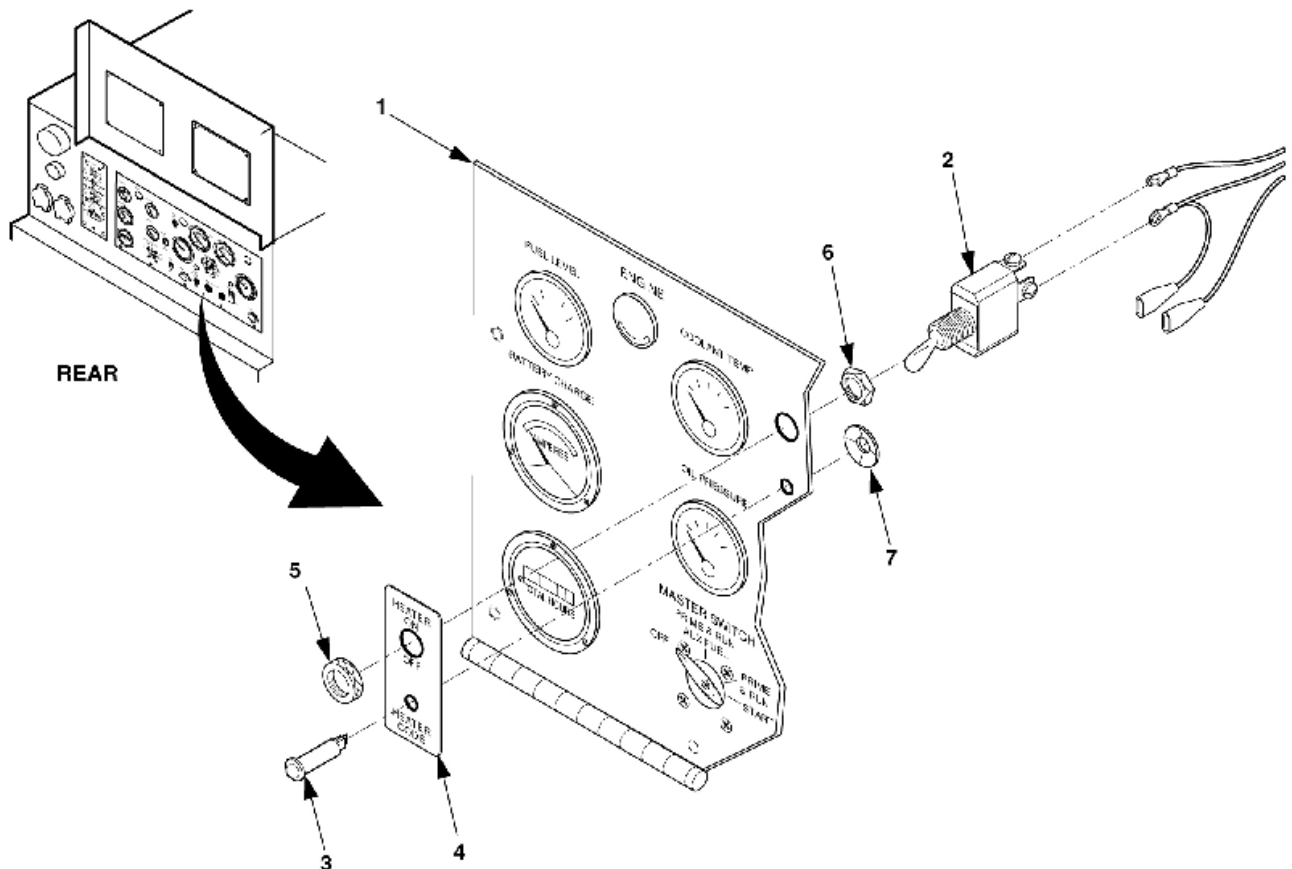

Figure 4-24. Plate, Operation and Heater Switch Maintenance.
1. Disconnect electrical lead from electrical switch terminal (2), Figure 4-24, and use multimeter to measure for continuity across switch terminals with switch in ON position. With switch in OFF position, there should be an open circuit.